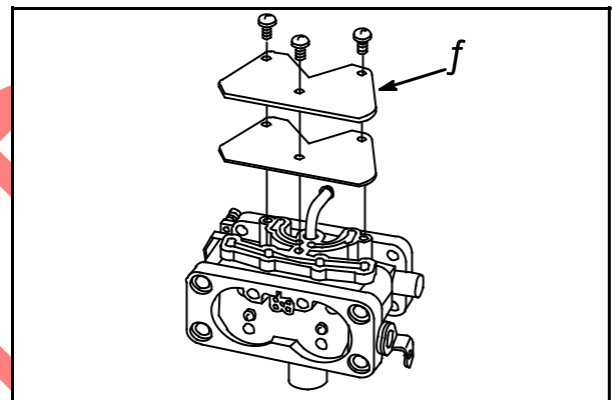

Fig. 124
2. Install cover plate (3) with new gasket, **Fig. 124**.